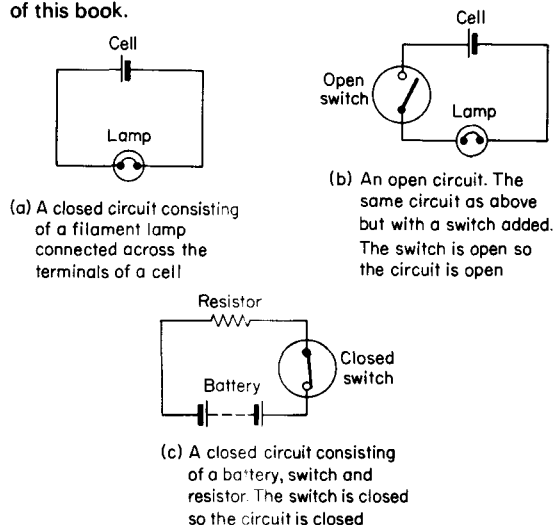

Fig. 2.79 Simple electrical circuits
**The electric circuit.** An electric circuit is a complete electrical pathway in which the current can flow from the negative terminal to the positive terminal. A lamp connected across a battery forms a simple electric circuit (Fig. 2.79 (a)). So long as the pathway is unbroken, current flows and we have a closed circuit. If the pathway is broken at any point an open circuit results and the current ceases to flow.
Thus, current flows until the circuit is broken. We may stop the current flow in the lamp circuit by removing the lead from the battery or by using a switch (Fig. 2.79 (b)). The electrical circuit symbols are shown in Chapter 3.8 of this book.